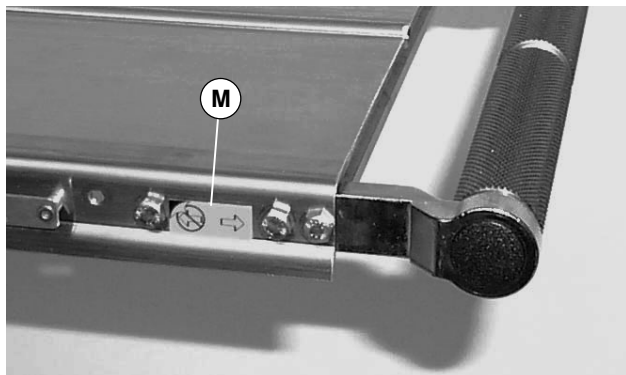

Figure 3
**NOTE:** 7200 Series sanitary conveyors are shipped with a "belt travel direction" sticker (M of Figure 3) installed. After drive is installed and tested, remove sticker.